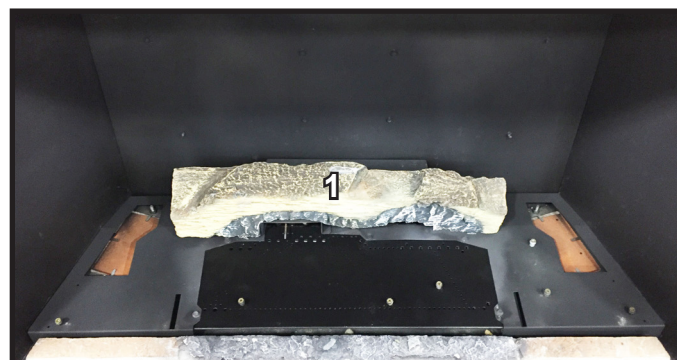

Figure 3. Log #1 Installed
**LOG #1:** Place the pilot hood cutout of Log #1 over the pilot hood and slide it back until it sits flush against the air scoop. See Figure 3.